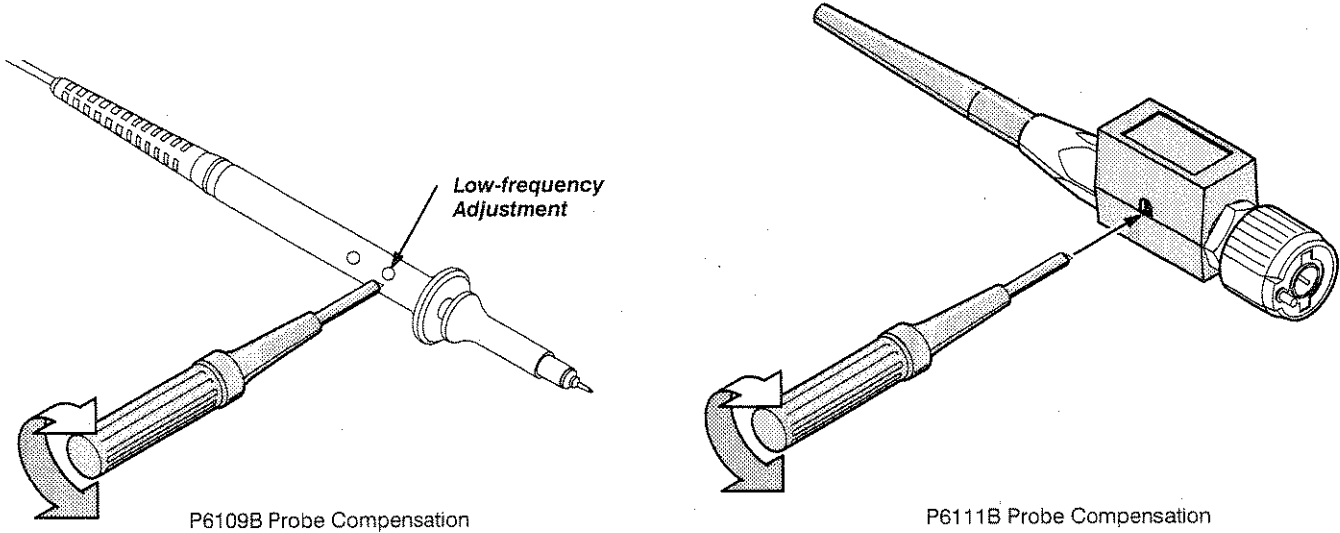

Figure 2-7: Location of Probe Head Adjustment
- 11. Adjust the low frequency compensation adjustment, located in the probe body, for the best possible square wave. See Figure 2-7 for the location of the low frequency adjustment.